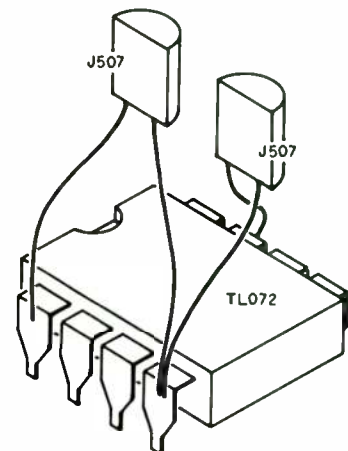

FIGURE 1: Cathode attachments for current regulator diodes.
1. Replace the 3.92k 1% metal film resistors placed between pins 1 to 4 and pins 7 to 4 of each op amp with Siliconix J507 current regulator diodes. The cathodes of these 2mA current sources are both attached to pin 4. (Fig. 1.)